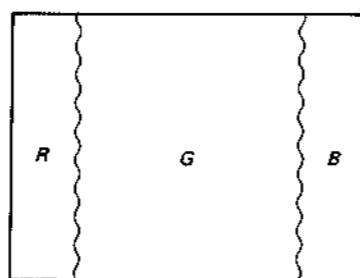

Fig. 3-3.
- 7) Adjust the purity control to center the vertical green band as shown in Fig. 3-3.